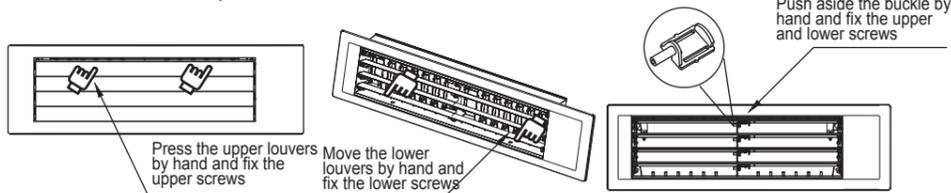

Figure 5
- When fixing the panel, you can press the top louver and move the bottom louver with moderate strength to release the lock, so as to easily fix the flat head screws with tools; otherwise, the louvers may permanently be deformed. The lock must be reset after it is released, otherwise, it may cause abnormality, as shown in Figure 5.